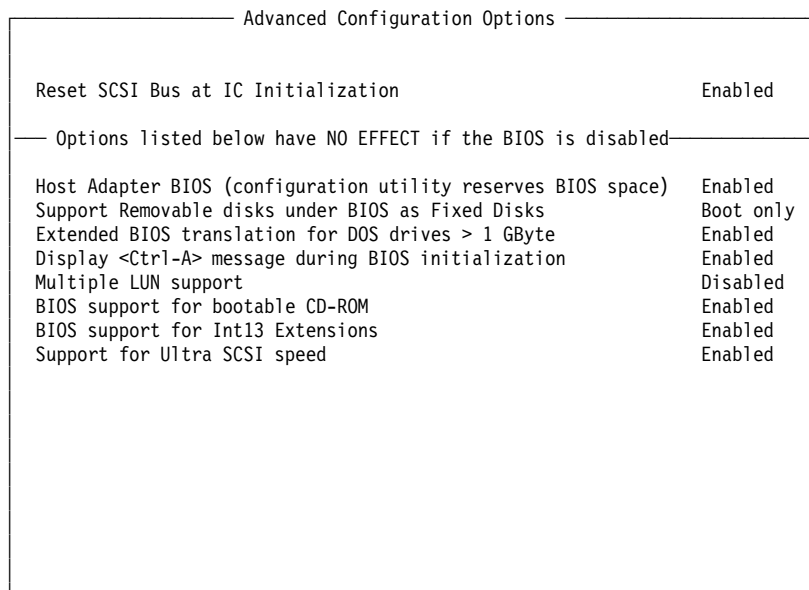

Figure 10. PC Server 320 SCSISelect Utility Program - Advanced Configuration
1. The Send start unit and Include in BIOS Scan options have no effect if BIOS is disabled in the Advanced Configuration Options panel (see Figure 10).
A panel similar to the one in Figure 10 will appear.